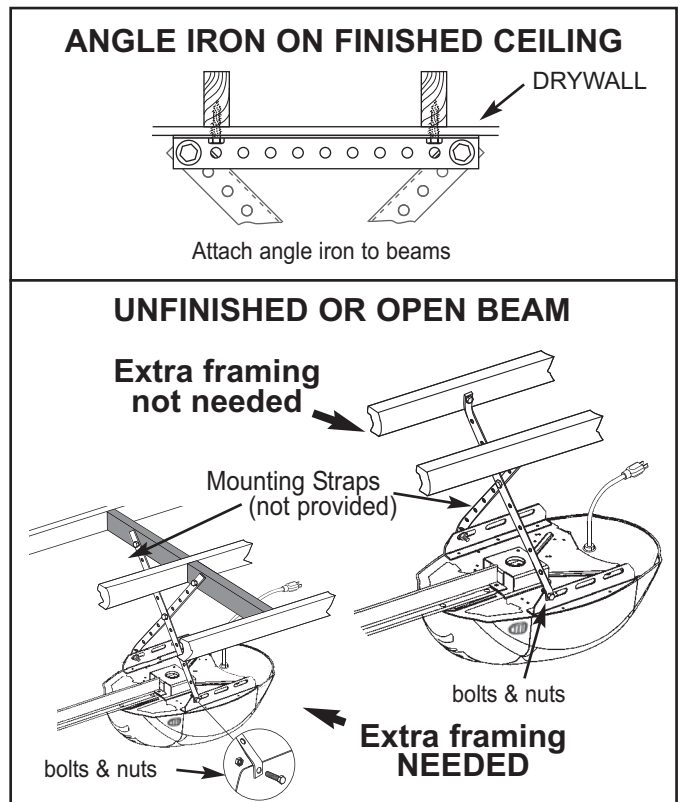

FIG. 2-6 Mounting the power head.
- On **finished** ceilings, locate ceiling joists or trusses using a stud finder or similar device. Attach angle iron (not provided) to joists or trusses through finish material using (provided) lag screws (Fig. 2-6).
- On **unfinished** ceilings or open ceilings, straps may attach directly to joists or trusses. Depending on the garage construction, extra framing material (not provided) which may be required should be installed using appropriate construction techniques (Fig. 2-6).
- Attach mounting straps (not provided) to ceiling using lag bolts (Fig. 2-6).
- Set height of power head to following (Fig. 2-6):